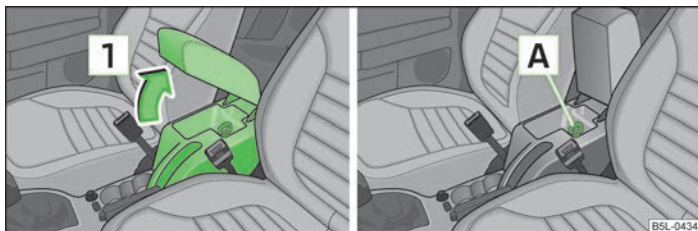

Fig. 79 Armrest: Storage compartment/cooling of storage compartment
- Open the lid of the armrest in the direction of the arrow **1** » Fig. 79.
- First of all fold the cover downwards and then lift it in the direction of the arrow **1** » Fig. 79 into one of the 4 fixed positions.
- Pull the lock **A** » Fig. 79 upwards.
- Carefully push the lock **A** » Fig. 79 downwards until it stops.